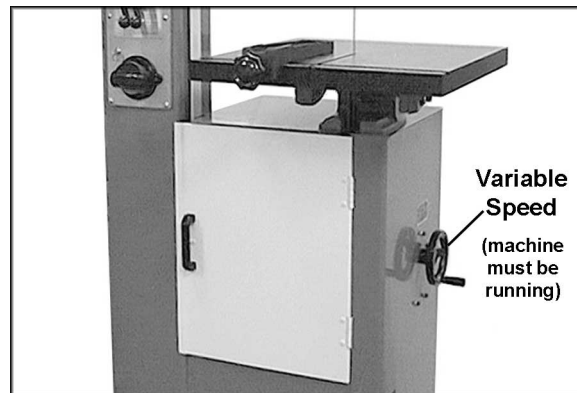

Figure 14
4. Turn the variable speed handwheel (Figures 14 and 15) to the required speed. Turning the handwheel clockwise increases speed. Turning counterclockwise decreases speed.